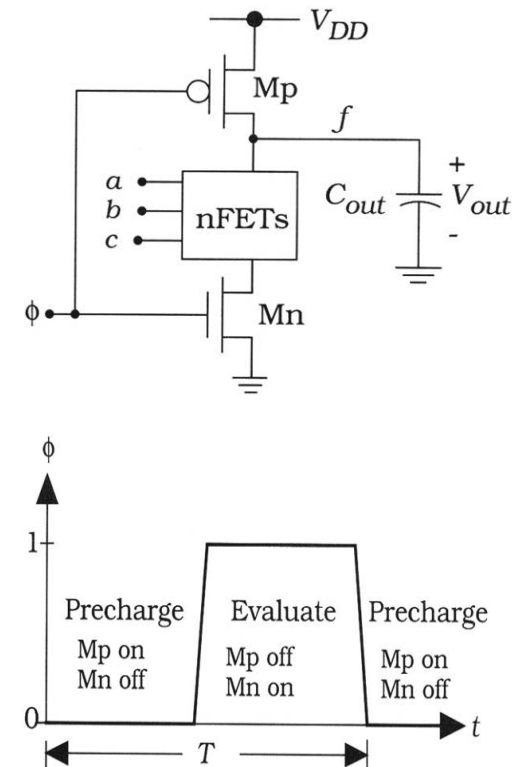

Figure 9.17 Basic dynamic logic gate
- ❑ Based on the circuit in Figure 9.17